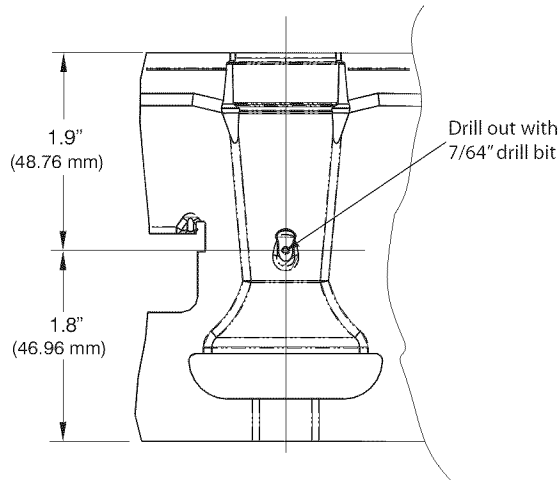

Fig. 7 - Mixer Screw Location
1. Locate the dimple on each burner venturi tube. If you cannot locate the dimple, refer to Fig. 7 for location of the mixer screw.